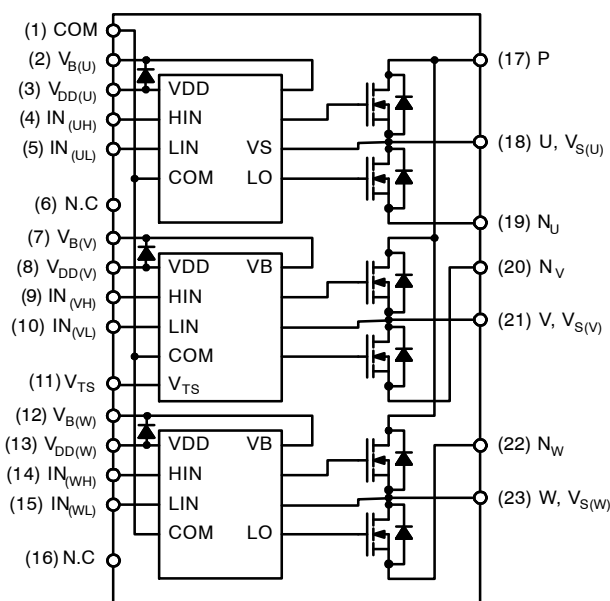

**Figure 1. Pin Configuration and Internal Block Diagram (Bottom View)**
13. About pin position, refer to Figure 1.